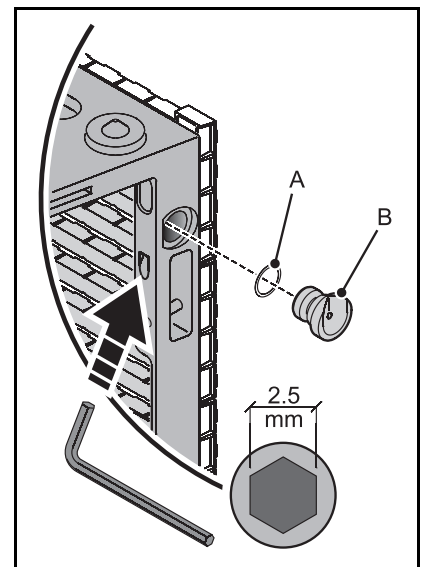

Figure 1: Removing side-to-side alignment cones
1. See Figure 1. Unscrew the 2.5 mm Allen bolts shown and remove the straight side-to-side alignment cones **B** and washers **A** close to the top and to the bottom of one side of each panel. Store all components for possible re-use.
8. Reinstall the alignment cones (see Figure 1) on the sides of panels and Headers before installing panels in a flat wall.